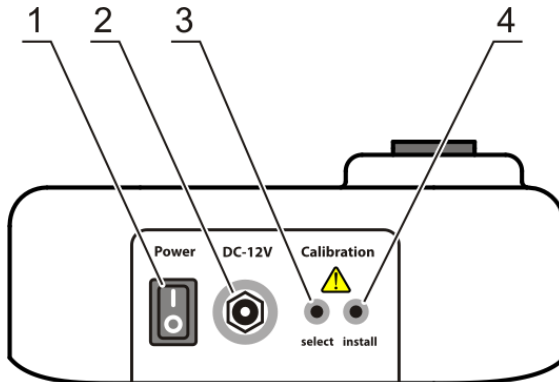

Figure 3. Back view
- Connect the external power supply unit into the socket at the rear side of the unit (fig. 3/2) and position the unit for an easy access to the external power supply and the power switch.
5.2. Connect the external power supply to electric circuit. Switch on the unit using the **Power** switch (fig. 3/1) on the rear panel.
- 6.4. Connect the external power supply to electric circuit. Switch on the unit using the **Power** switch (fig. 3/1) on the rear panel.
- 6.5. Press the **Select** button (fig. 3/3) on the rear of the unit.
- 6.6.1. **Empty socket.** Display shows -.- indication. Press **Install** button (fig. 3/4) to save empty socket value. Display shows next required calibration value.